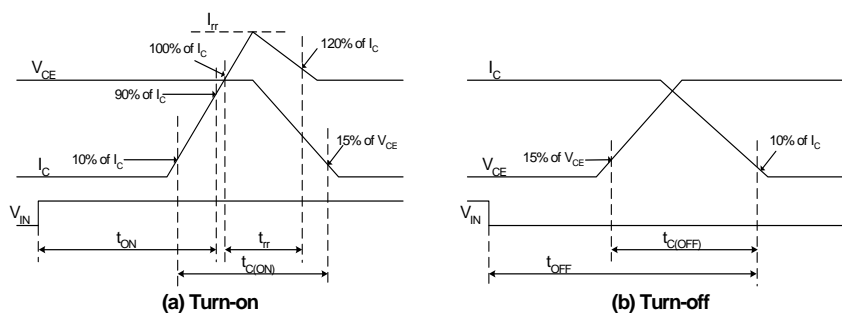

Fig. 4. Switching Time Definition
- t_{ON} and t_{OFF} include the propagation delay time of the internal drive IC. t_{C(ON)} and t_{C(OFF)} are the switching time of IGBT itself under the given gate driving condition internally. For the detailed information, please see Fig. 4